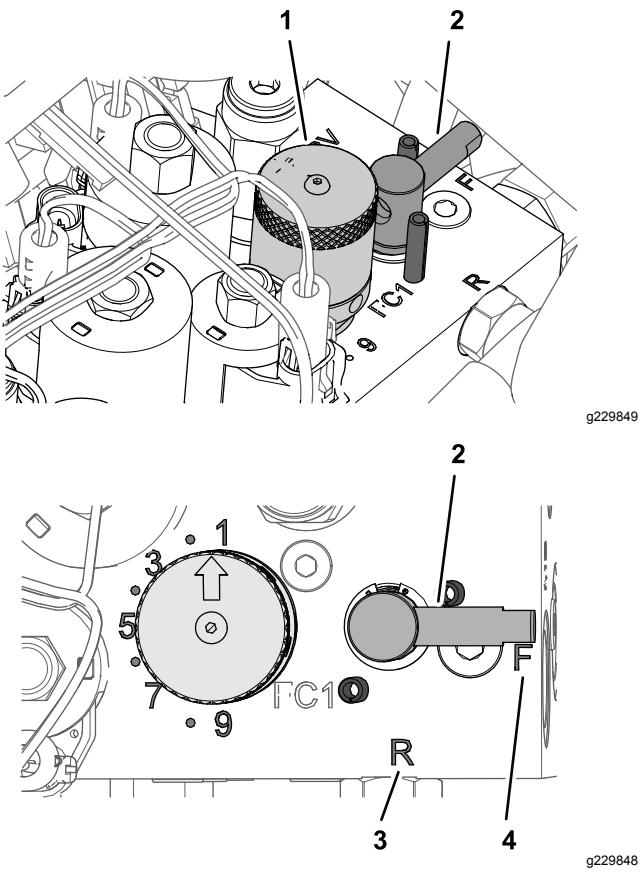

Figure 53
4. Rotate the backlap lever to the R position (Figure 53).
5. Rotate the reel-speed knob to setting 1 (Figure 53).